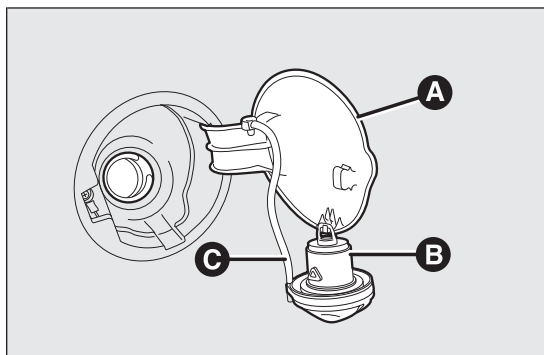

fig. 96
1) Open the flap A fig. 96 by pulling it outwards, keep the cap B fig. 96 still, insert the ignition key in the lock and turn it anticlockwise.
The cap has a device C fig. 96 that attaches it to the flap so it cannot be lost. When refilling, attach the cap to the flap, as illustrated.